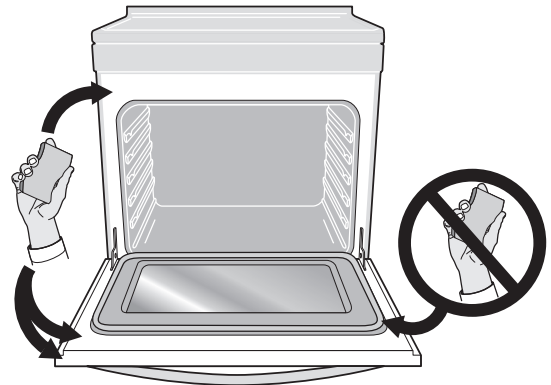

Figure 29: Areas to clean and areas to avoid (gasket)
- Do not spray oven cleaners or oven protective coatings in or around any part of the oven interior. Clean any soil from the oven frame, the door liner outside the oven door gasket, and the small area at the front center of the oven bottom (Figure 29). These areas heat sufficiently to burn soil on. Clean using soap and water prior to starting Self Clean.